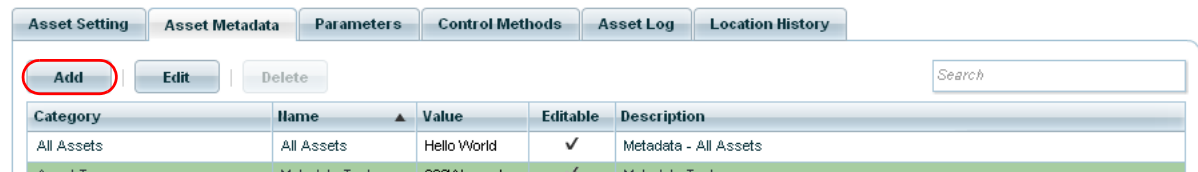

FIG. 252 Asset Metadata tab - Add button
5. Open the **Asset Metadata** tab, and click the **Add** button (FIG. 252).